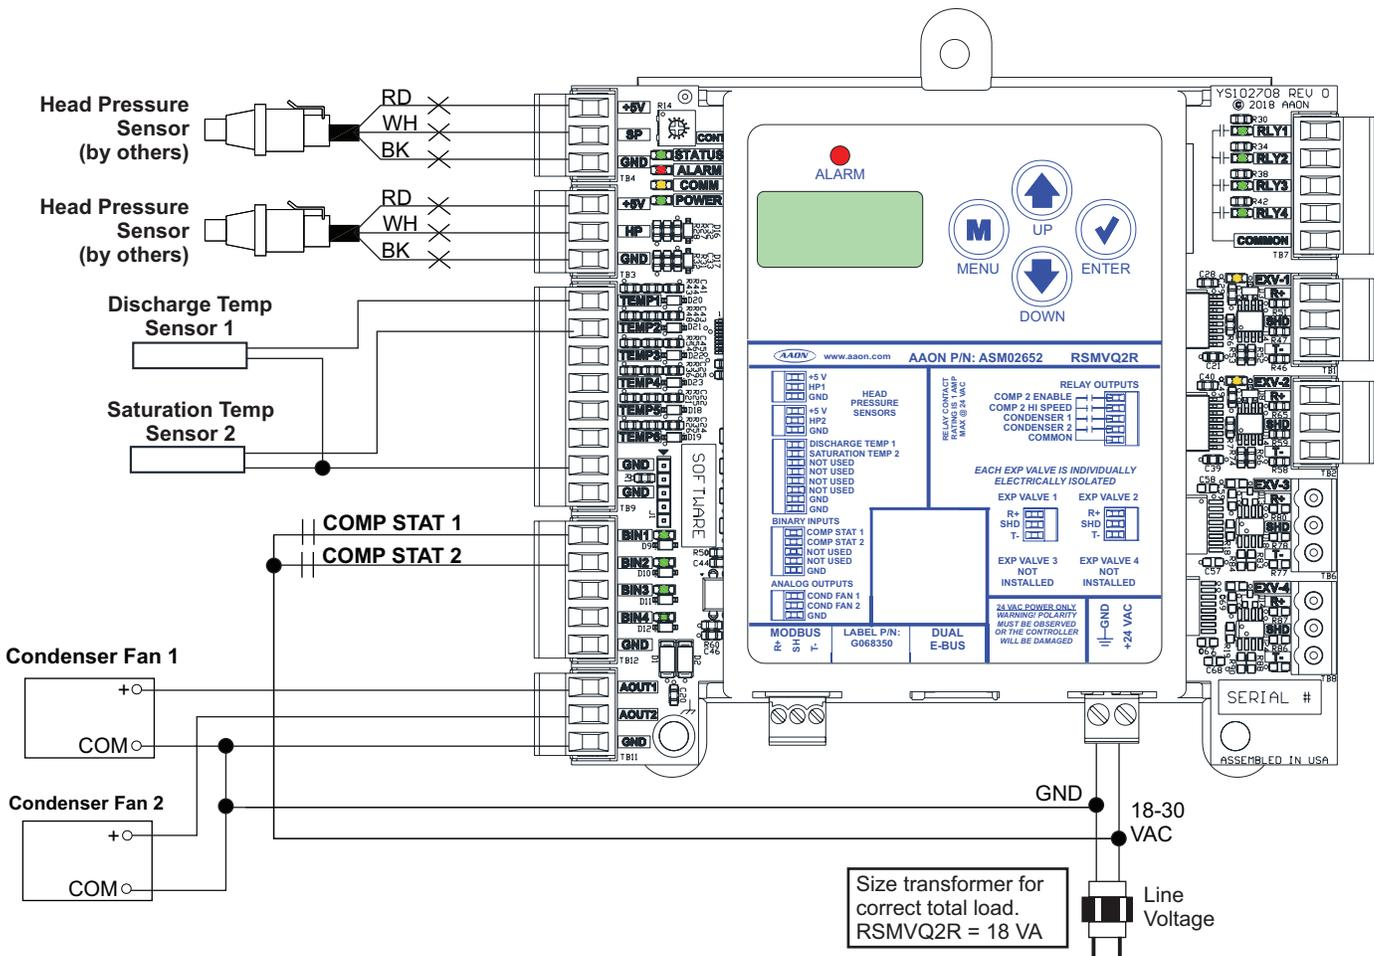
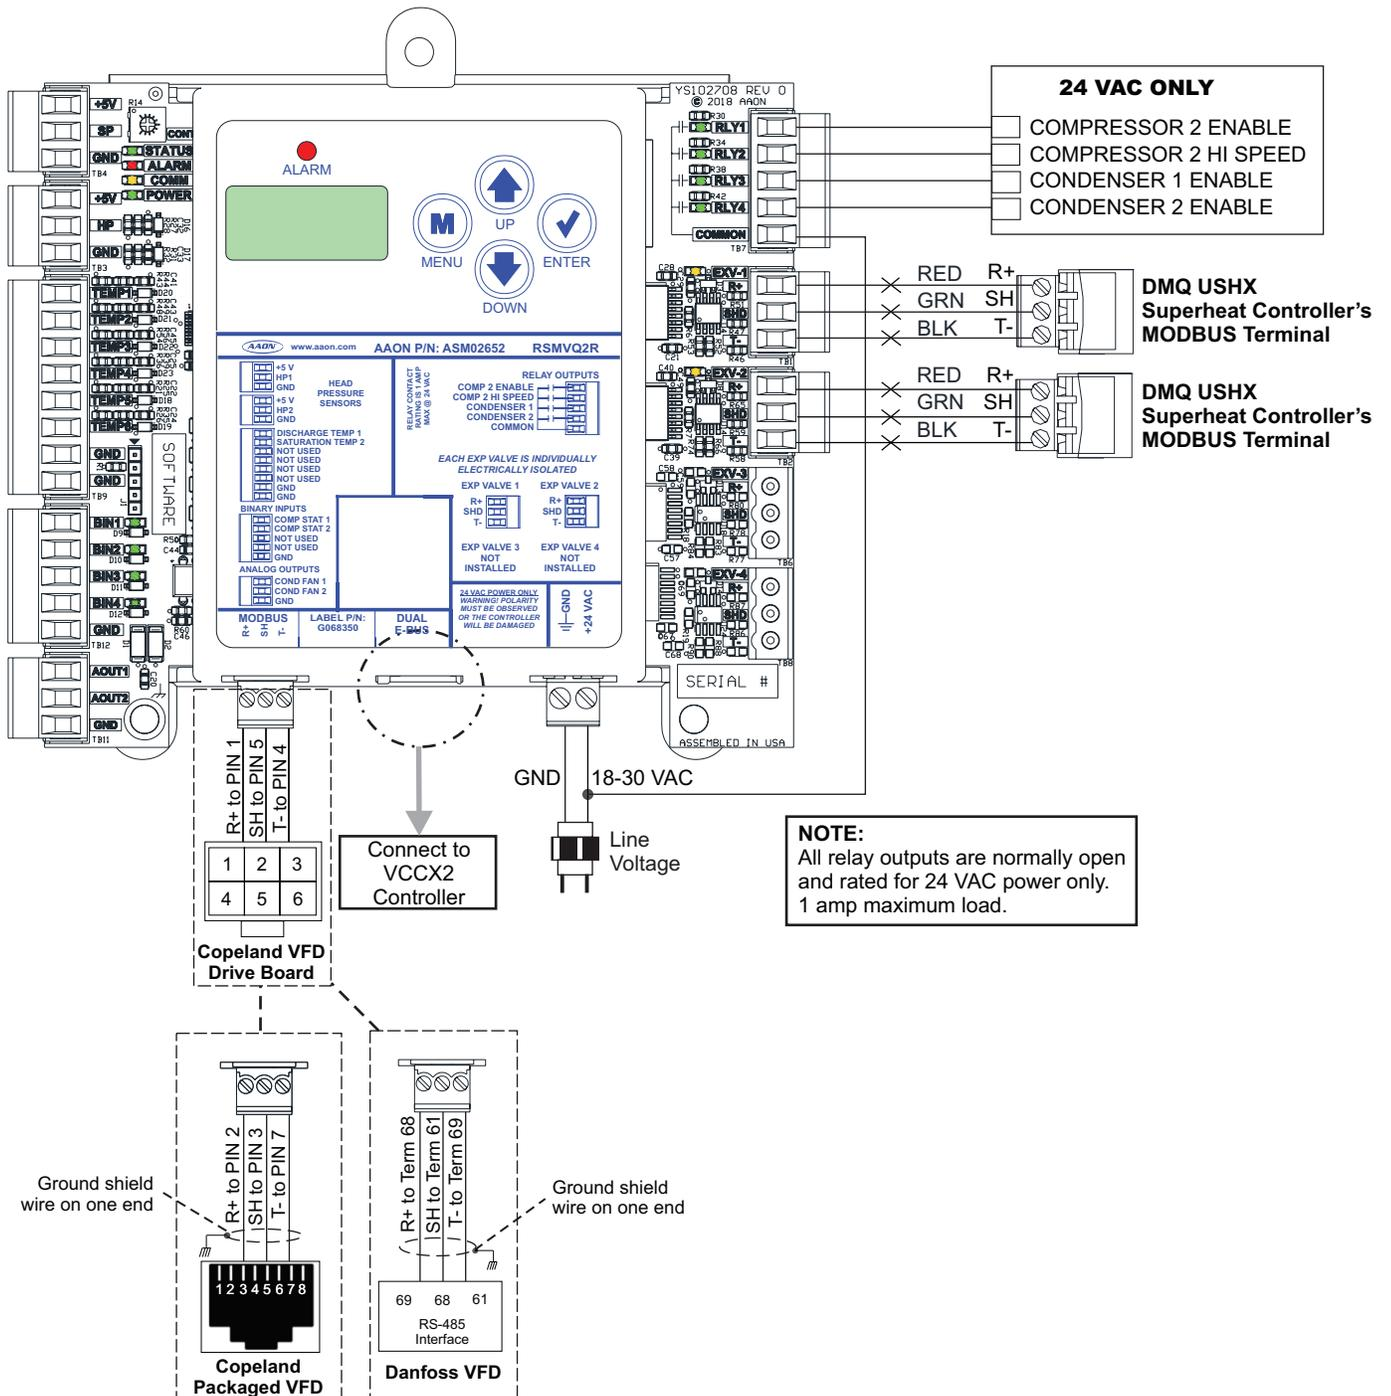

Figure 2: RSMVQ2R Inputs Wiring
Figure 3: RSMVQ2R Outputs Wiring
The RSMVQ2R provides four analog inputs (AI), two binary inputs (BI), four relays (RLY), and two analog outputs (AO). See **Figures 2 and 3, pages 8 and 9**, for wiring.
The RSMVQ2R uses four analog inputs, two binary inputs, four relays, and two analog outputs. See **Figure 2, this page**, for inputs wiring and **Figure 3, page 9**, for outputs wiring.